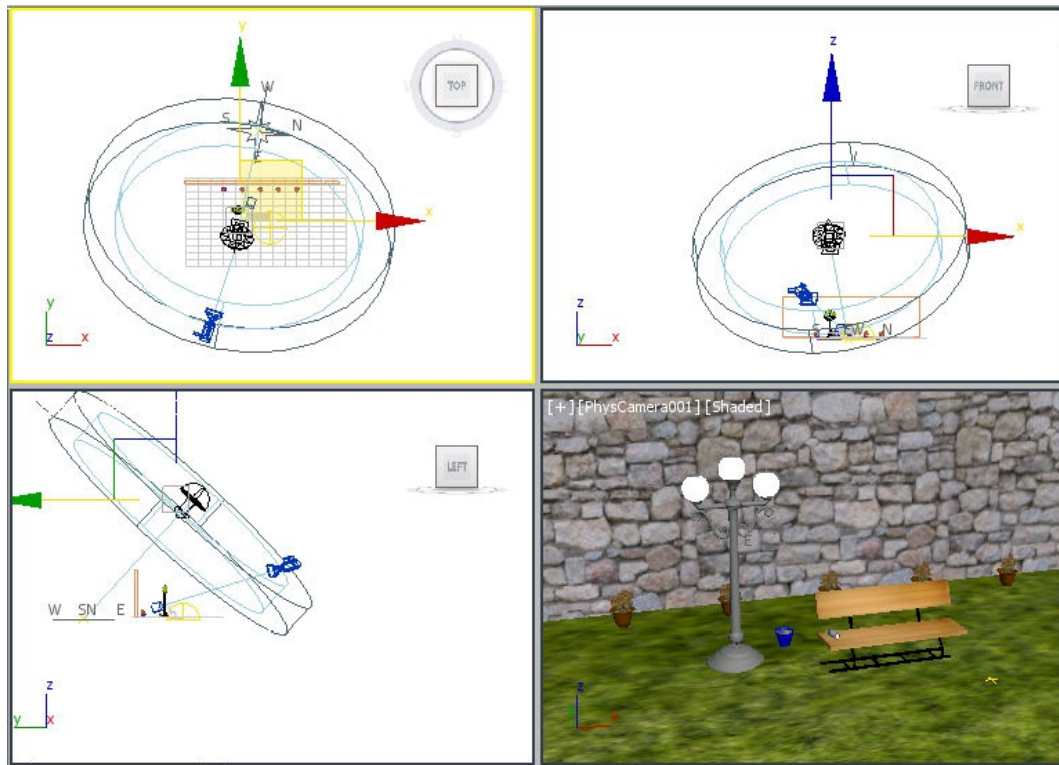

Figure 13-85 The Daylight cone adjusted
11. In the **Model Scale** area of the **Control Parameters** rollout, enter **614** in the **Orbit Scale** spinner. Figure 13-85 shows the position of *Daylight001* in the viewports.